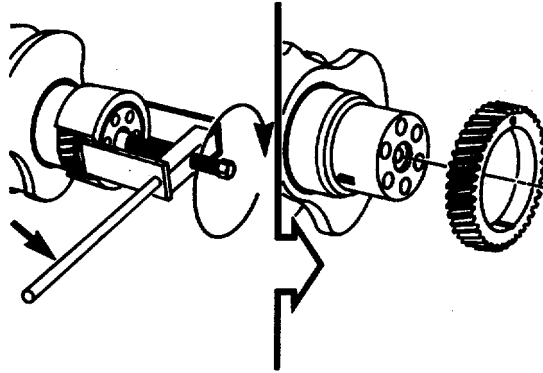

FIGURE 4-51. Crankshaft Gear Removal.
- (1) Install puller jaw and bridge assembly on crankshaft (FIG. 4-51).
- (2) Lubricate puller screw with clean engine lube oil.